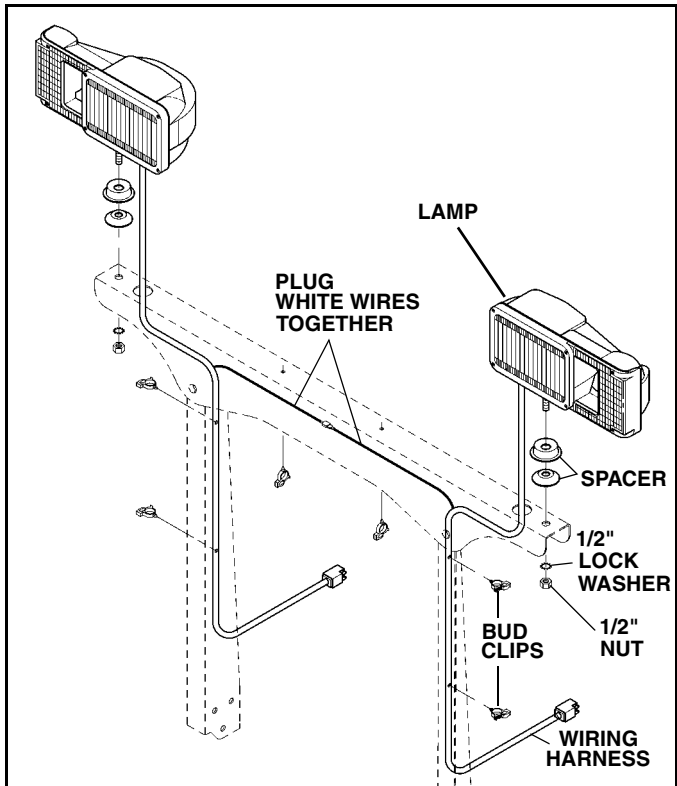

Figure 1-20
Mount lamps on light bar using supplied 1/2" lock washers and nuts. (See Figure 1-20).
41. Route the harnesses through the light bar, through the access hole and down the inside of the light bar supports. Route the white wire from each lamp along the underside of the light bar and connect. (See Figure 1-20).